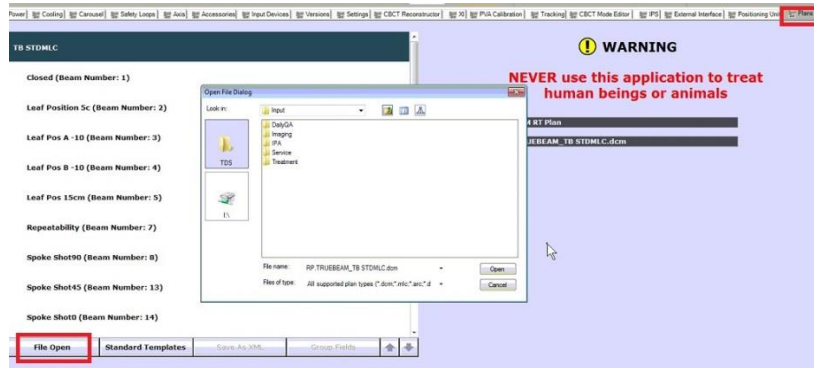

Figure 2: Opening Plan in Service Mode
4. Select **Plans** tab and select the MLC static (120 or HD) DICOM plan or StatMLC80.mlc plan in the following directory (see Figure 2):